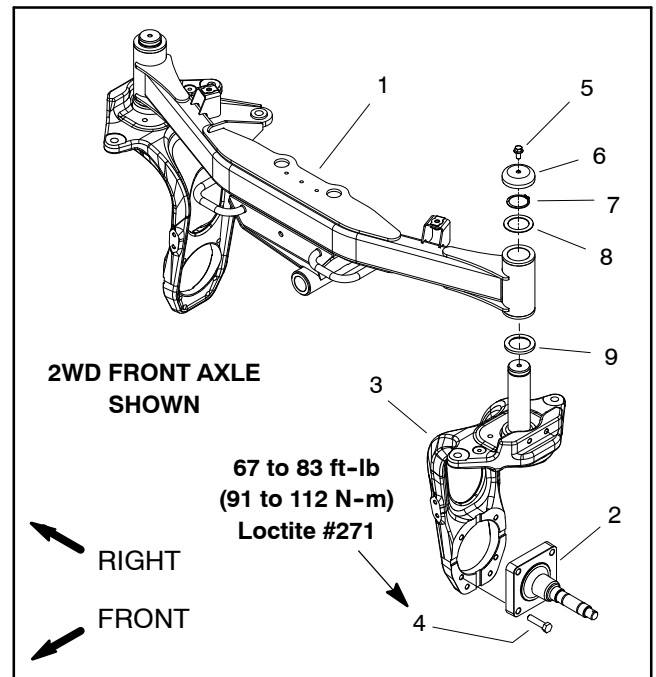

Figure 24
**NOTE:** The front steering fork assemblies on 2WD machines (shown in Fig. 24) include a spindle used to attach the wheel hub. The front steering fork on 2WD machines does not include a wheel motor nor a proximity sensor.